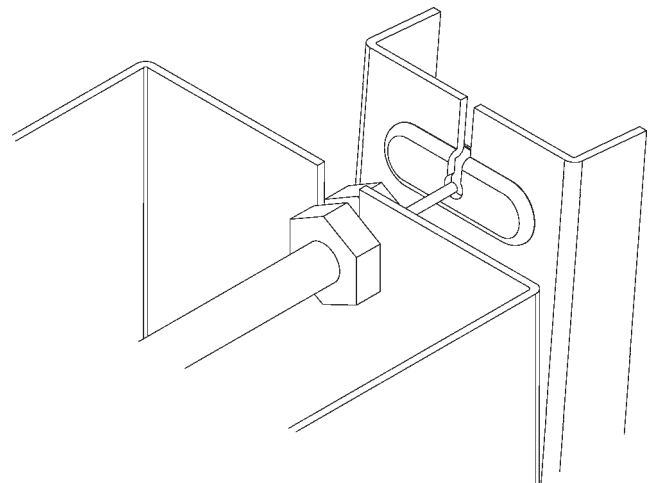

FIG.9
See Fig.9
1. Assemble the operating cable to the fountain bracket. (Fountain should be mounted to exterior wall) Create a loop in the cable and thread the free end of the cable through the wall into the freeze resistant box. The adjustment nuts should be in the middle of threaded area on the operating cable. See Figure 9